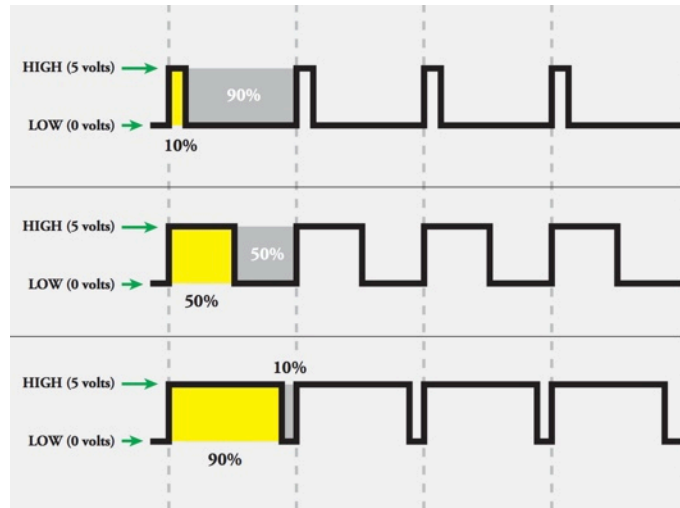

Figure 1.1: PWM Commands
- What is the effective output voltage for the three PWM commands shown in Figure 1.1?